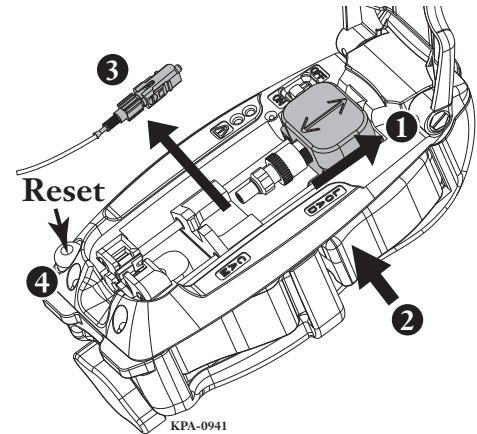

Figure 44 — Remove Connector from Tool
Step 5: Open the cover and slide the VFL Coupler back into its starting position (Figure 44).
Step 7: Press the Reset Button (Figure 44) to make the tool ready for the next connector. If the cover is closed at this point without a connector loaded, the Error Light will flash. This is an indication that there is no connector in the tool. Once a connector is correctly loaded and the cover closed, the light will stop flashing.